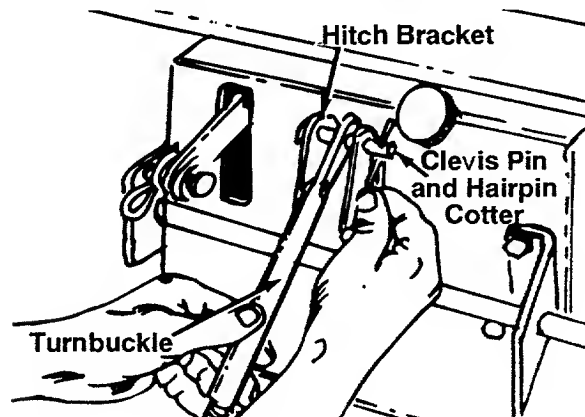

FIGURE 3.
7. Screw the two halves of the center turnbuckle together. Attach either end to any hole in the hitch bracket mounted in the center of the rear frame of the tractor with a clevis pin and hairpin cotter. See figure 3.